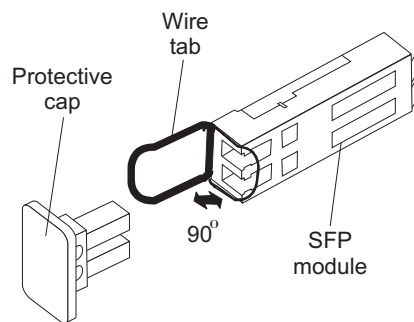

Figure 28. Unlocking the SFP module latch - wire variety
- For SFP modules that contain wire tabs, unlock the SFP module latch by pulling the wire latch outward 90°, as shown in Figure 28.